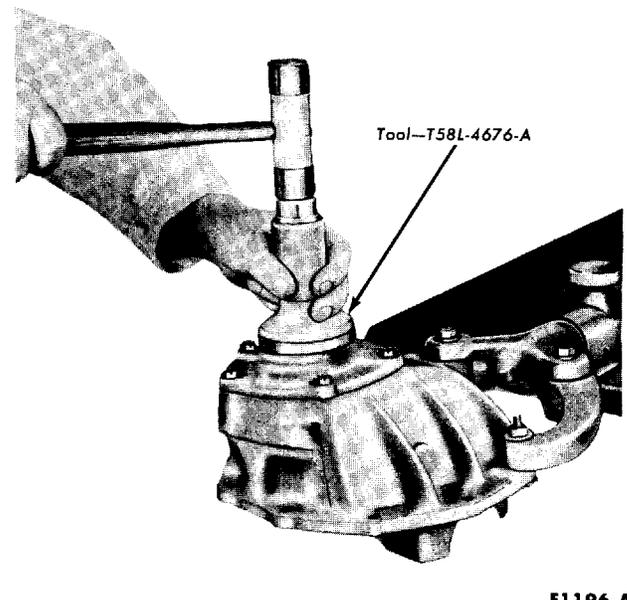

FIG. 29—Oil Seal Installation
7. Coat the outside edge of a new oil seal with an oil resistant sealer and install it in the bearing retainer (Fig. 29). Soak new seals in SAE 10 oil for ½ hour before use.